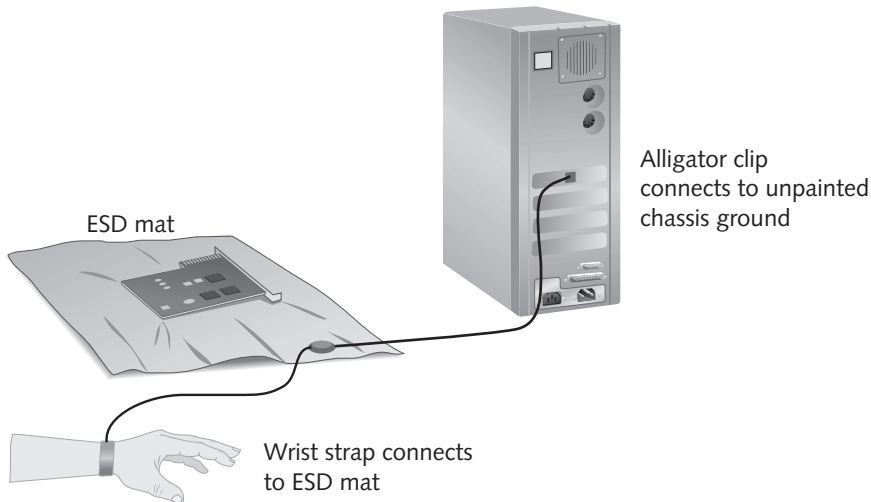

Figure 6-1 A portable grounding kit and mat
- *Use a grounding kit*—These come in several forms. At the lowest end, a portable grounding kit uses a wrist strap with an alligator clip that attaches to the server chassis (see Figure 6-1). (Be sure to attach it to an unpainted surface for best contact.) This has the same effect as touching the chassis to equalize electrical potential, except that it is not temporary because the connection is constant.